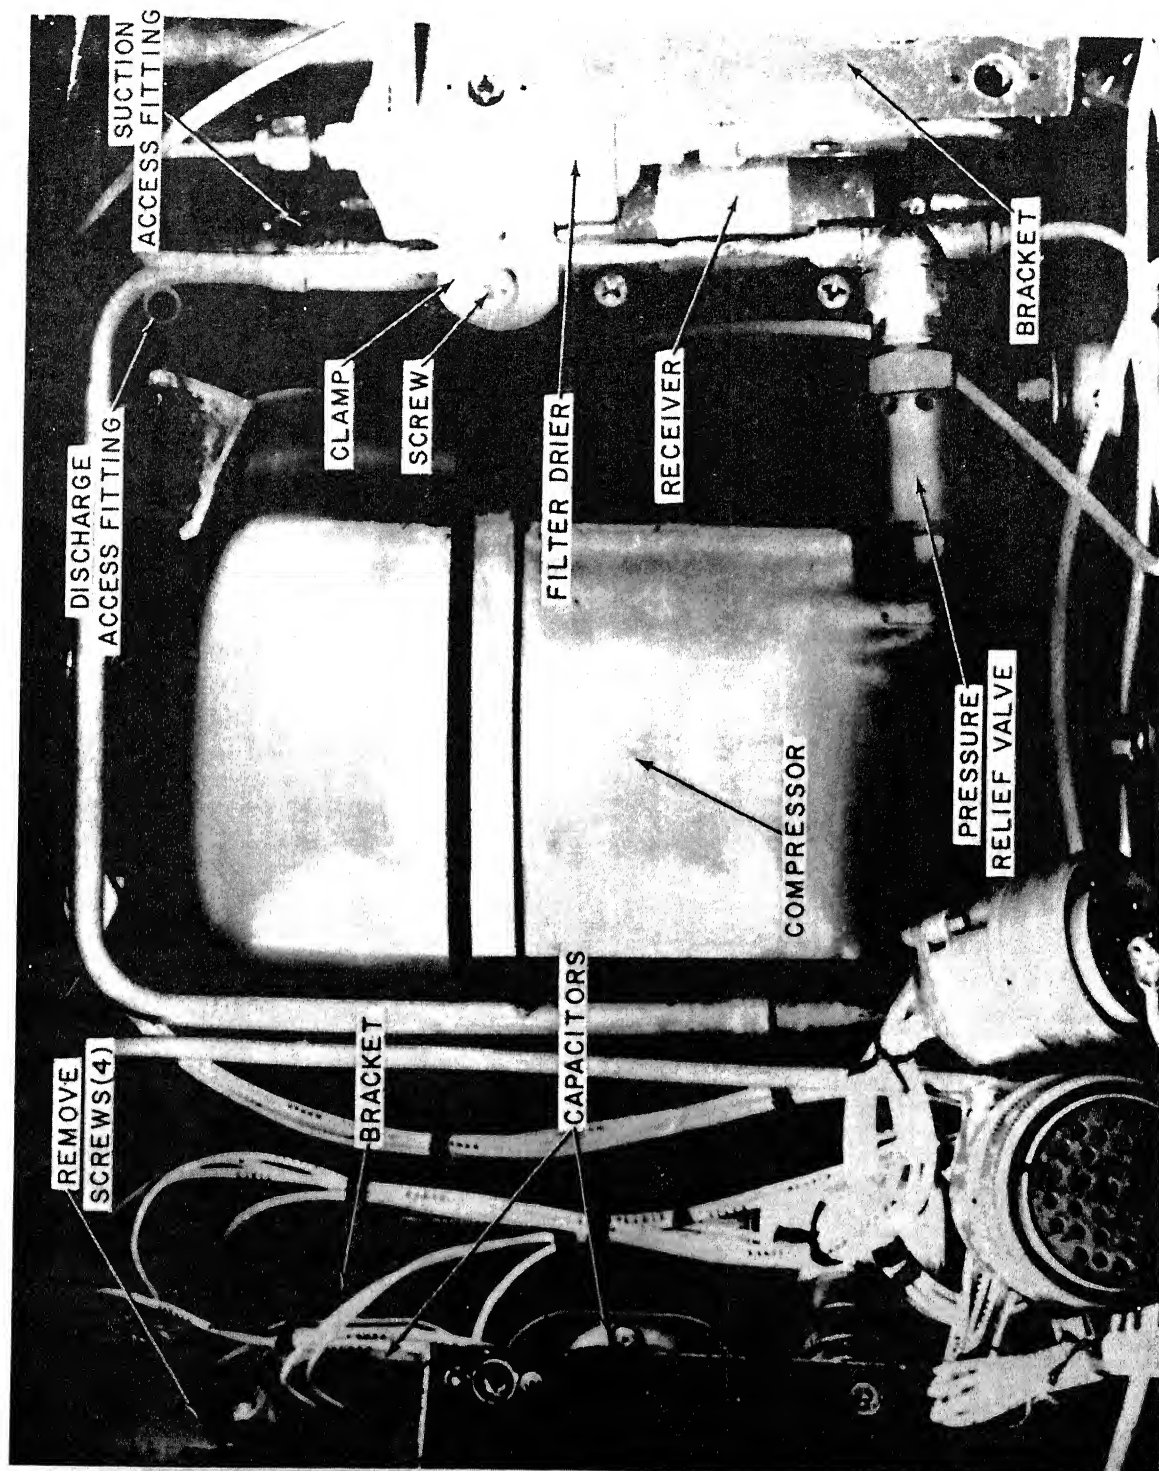

Figure 4-7. Compressor, Pressure Relief Valve, Receiver, Liquid Line Solenoid Valve, Filter-Drier, Drain Tube, Removal and Installation.
- a. **Removal.** Refer to figure 4-7 and remove 4-7 and remove capacitors.
- (1) Inspect for cracked case and broken or damaged contacts.
- c. **Installation.** Refer to figure 4-7 and install capacitors.
b. **Inspection.** Inspect for cracked or broken casing and damaged or broken terminals, figure 4-7.
a. **General.** The two access fittings (suction line and discharge line) provide access to the refrigerant system, figure 4-7.
a. **General.** Pressure relief valve (fig. 4-7) is located on a tee just below the filter-drier. The pressure relief valve protects the refrigerant system from excessive pressure.
a. **Inspection.** Inspect for cracks or broken casing, figure 4-7.